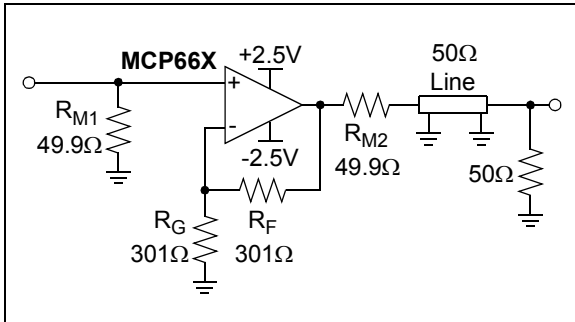

FIGURE 4-10: 50Ω Line Driver.
Differential gain (DG) and differential phase (DP) refer to the nonlinear distortion produced by an NTSC or a phase-alternating line (PAL) video component. The AC Electrical Specifications table and Figure 2-34 show the typical performance of the MCP661, configured as a gain of +2 amplifier (see Figure 4-10), when driving one back-matched video load (150Ω , for 75Ω cable). Microchip tests use a sine wave at NTSC's color sub-carrier frequency of 3.58 MHz, with a $0.286V_{P-P}$ magnitude. The DC input voltage is changed over a $+0.7V$ range (positive video) or a $-0.7V$ range (negative video).
Figure 4-10 shows the MCP661 driving a 50Ω line. The large output current (e.g., see Figure 2-18) makes it possible to drive a back-matched line (R_{M2} , the 50Ω line and the 50Ω load at the far end) to more than $\pm 2V$ (the load at the far end sees $\pm 1V$). It is worth mentioning that the 50Ω line and the 50Ω load at the far end together can be modeled as a simple 50Ω resistor to ground.